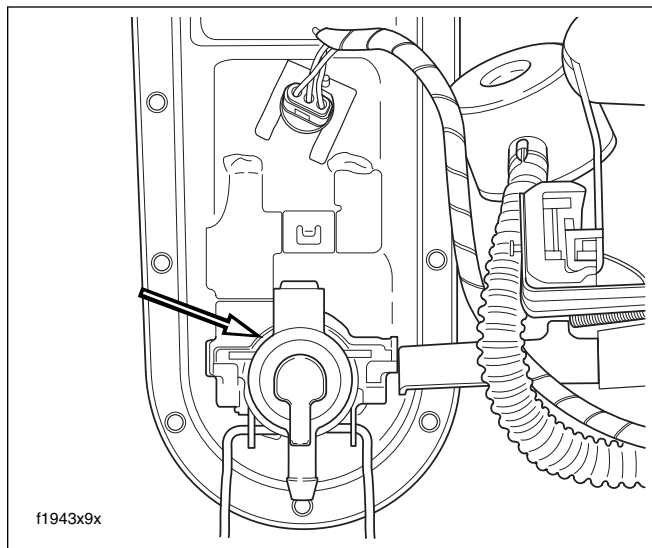

Figure 9-19. Remove Fuel Pressure Regulator (FLHR/C/S/I)
3. Slide fuel pressure regulator assembly forward to free arms from catches on canopy weldment. See Figure 9-19.
3. Fit fuel pressure regulator assembly into canopy weldment engaging arms in catches. See Figure 9-19.